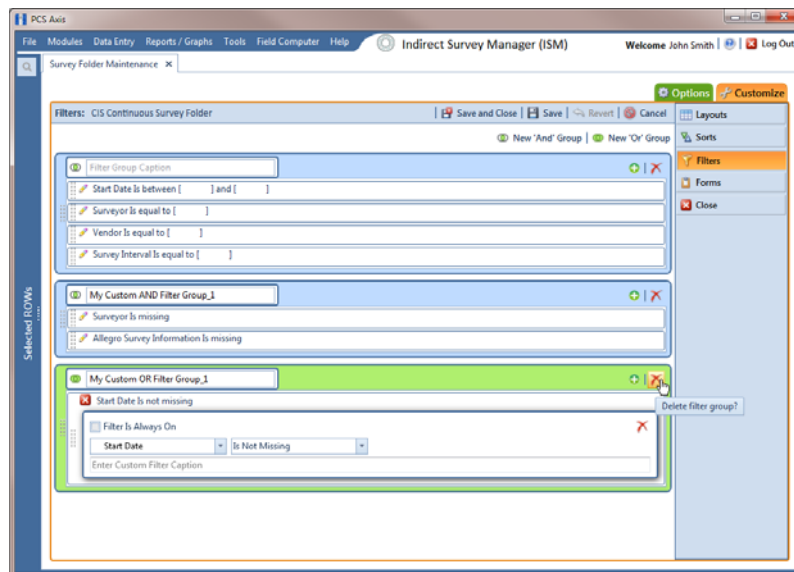

Figure 6-23. Filters
- 8 To delete a filter in a filter group, click the filter's  delete button (Figure 6-23). Then click  **OK** when the *Delete* message displays.
- 12 Click the  close button to close the filter's property settings group box (Figure 6-23, page 207).